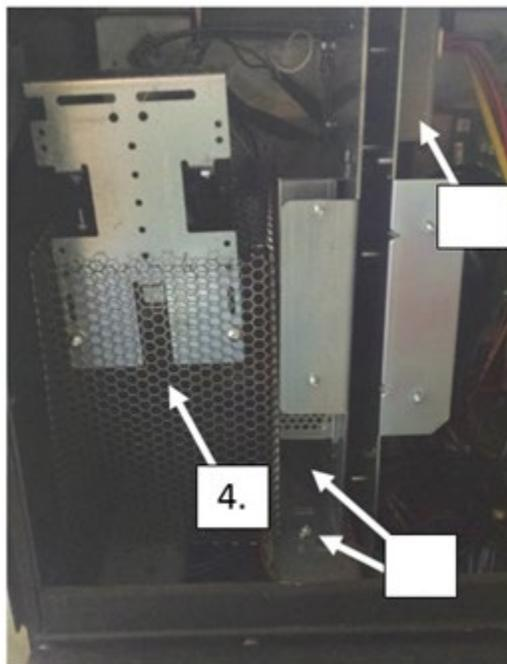

Figure 76
- 29) Insert the NCR heater + wire guard (497-0522796) assembly [4] at the location shown with the heater aimed downward. See Figure 76 below.